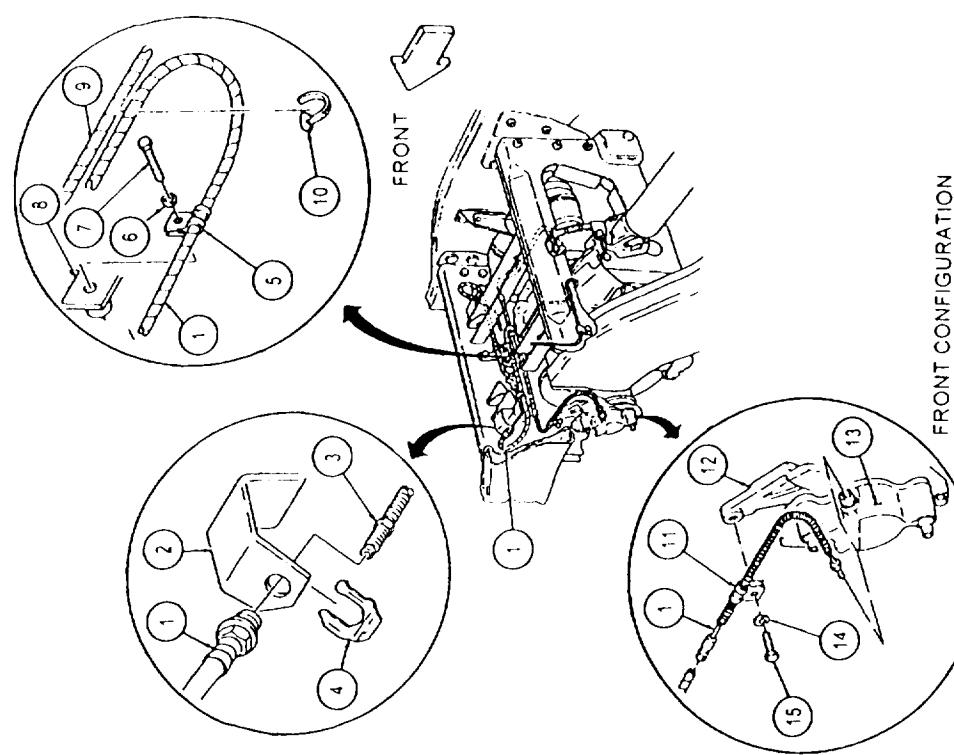

FIGURE 1
- b. Replace step 4 with, "Disconnect left front brake line (1) from caliper (13). See figure 1."
- c. Add step 4.1, "Remove capscrew (15), washer (14), and clamp (11) from yoke (12). See figure 1."
- d. Replace step 5 with, "Remove capscrew (7), washer (6), and clamp (5) from bracket (8). See figure 1."
- e. Add step 5.1, "Remove two tiedown straps (10) from brake lines (9) and (1). Discard tiedown straps (10). See figure 1."
- f. Replace step 6 with, "Remove clip (4) and left front brake line (1) from bracket (2) and intermediate brake line (3). See figure 1."
- b. Replace step 5 with, "Install left front brake line (1) on intermediate brake line (3) and bracket (2) with clip (4). See figure 1."
- c. Replace step 6 with, "Install clamp (5) and left front brake line (1) on bracket (8) with washer (6) and capscrew (7). Secure brake lines (9) and (1) with two tiedown straps (10). See figure 1."
- d. Add step 6.1, "Install clamp (11) and brake line (1) on yoke (12) with washer (14) and capscrew (15). See figure 1."
- e. Replace step 7 with, "Connect left front brake line (1) to caliper (13). See figure 1."